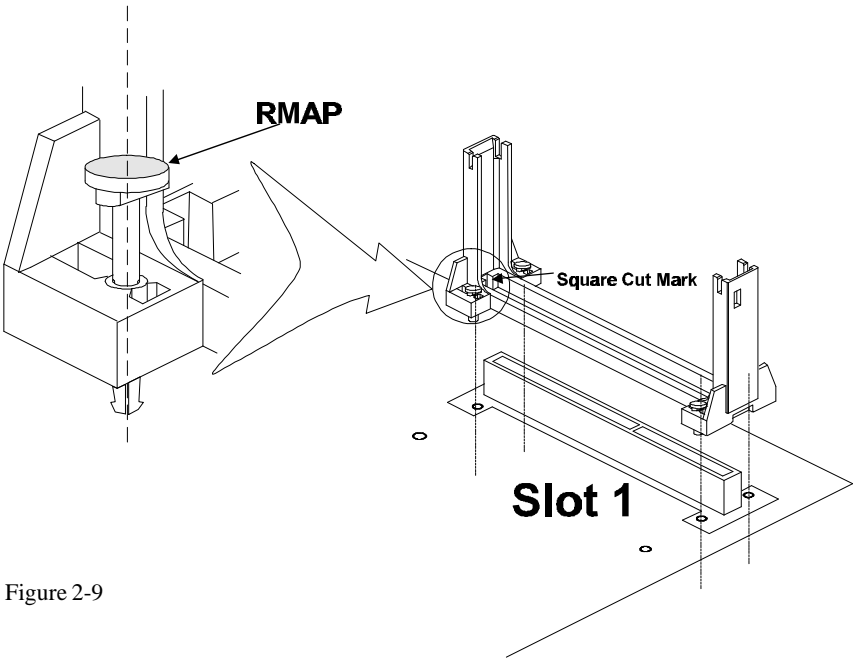

Figure 2-9
2. Insert the Retention Mechanism (RM) around the Slot 1. Be sure the Square Cut Mark of RM have the same orientation of Slot 1 pin 1. (Refer to Figure 2-9)
3. Insert four RM Attach Pin through the RM to secure it to the mainboard (four required per Assembly). (Refer to Figure 2-9)